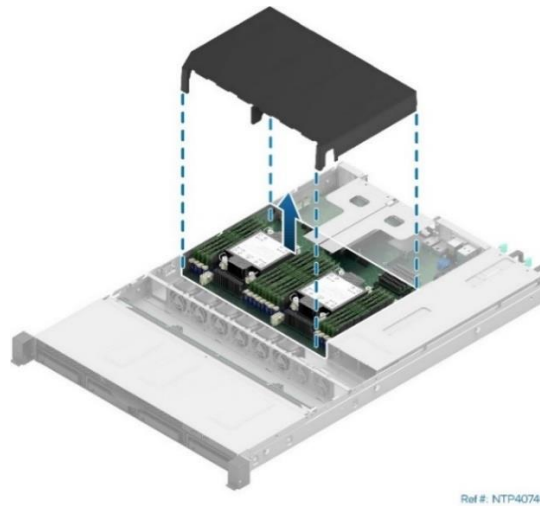

Figure 58. Air Duct Removal
3. Remove the Air duct (see Figure 58).
2. Remove the air duct (see Figure 58).